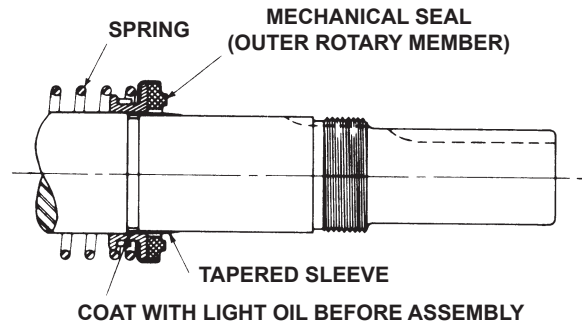

FIGURE 14
8. Place the tapered installation sleeve (furnished with replacement seals K-LL size) on the shaft as shown in **figure 14**.